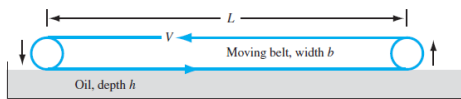

Fig. 1.1
- 1.1** The belt in Fig. 1.1 moves at a steady velocity V and skims the top of a tank of oil of viscosity μ , as shown. Assuming a linear velocity profile in the oil, develop a simple formula for the required belt-drive power P as a function of (h, L, V, b, μ) . What belt-drive power P , in watts, is required if the belt moves at 2.5 m/s over SAE 30W oil at 20°C, with $L = 2$ m, $b = 60$ cm, and $h = 3$ cm?